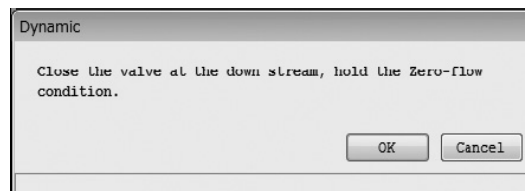

Fig.122
- ① Click the "Diag/Service (T)" menu, select "Installation" from the "Test/Status" drop-down list, and then click "Dynamic" under that.
- ② The following window will be displayed (Fig. 122). This will check the dynamic device installation state. Click "OK" after completely stopping the fluid.